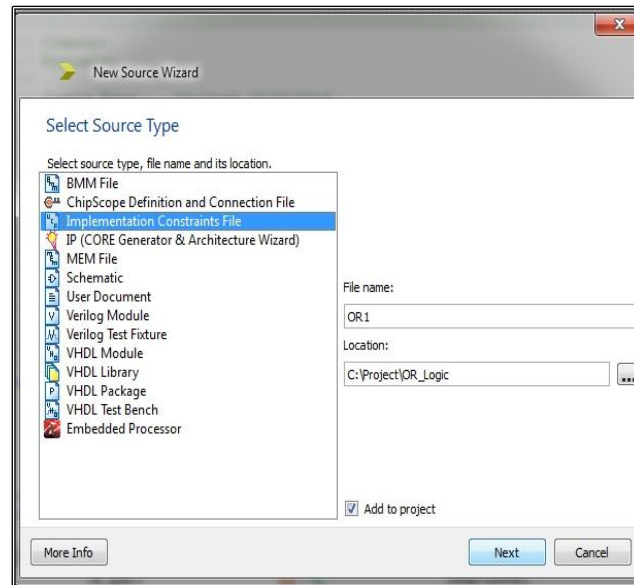

Fig 1.28: Implementation constraints file
27. In **Implementation Constraints File** enter the name of the UCF to be generated (Fig 1.28).